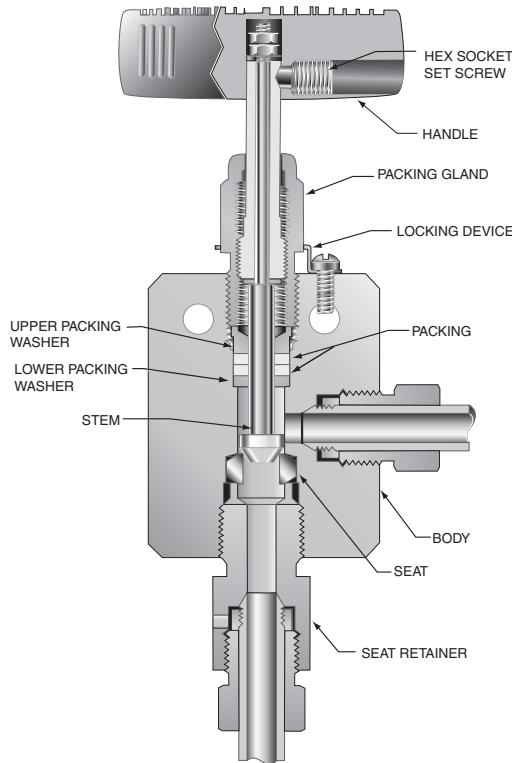

Figure 3: Valve with Replacement Seat
- While holding the valve body (or housing for HT and LT valves) secure, unthread and remove the packing gland. The packing will stay on stems that have a larger stem tip below the packing (see Fig. 3: SW8, 10/20SM9, 10/20SM12, 10/20SM16).
(see Fig. 3)